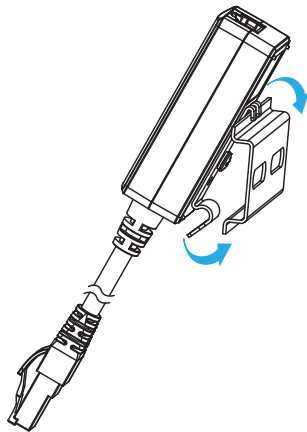

Figure 2
2. Mount the **Networking Isolator** by inserting the **Mounting Plate** onto the **DIN Rail** at an angle, starting from the top then push against the **DIN Rail**. (Figure 2)